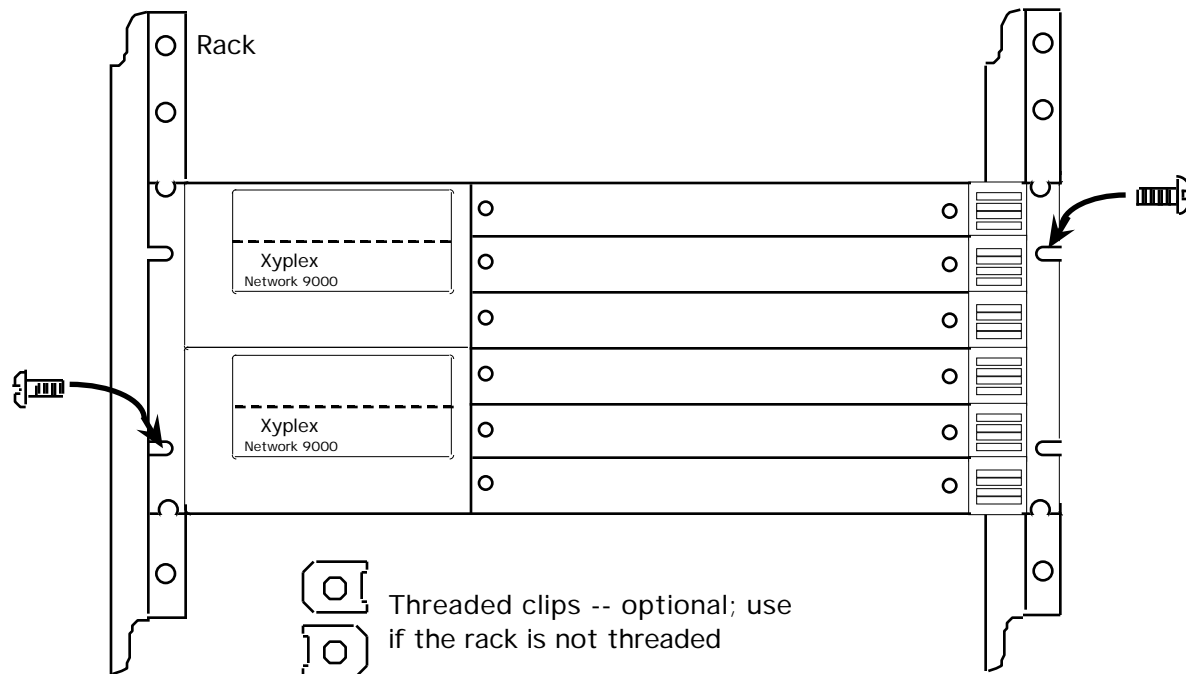

Figure 2-2. Rack Mounting Hub Chassis.
- d. The chassis requires 2 people to lift it. Place the bottom holes of the ears on the screws in the rack. Then, one person holds the chassis in place, aligning the side ear holes with the holes in the rack. The other person, using a Phillips screw driver, secures the chassis to the rack. Place a screw through each ear/rack hole and fasten a nut to it. Secure the bottom screws first. After you have two screws securing the holes that open to the side of the ears, remove the two screws holding the bottom of the ear and complete the process of securing the holes that open to the side of the ears. Figure 2-2 shows how you install the chassis into a standard 19" rack (in the example in Figure 2-2, the function cards and power supplies will be at the front of the rack).